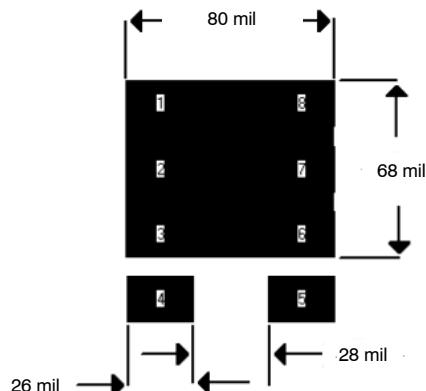

FIGURE 2. Footprint With Copper Spreading
The pad pattern with copper spreading shown in Figure 2 improves the thermal area of the drain connections (pins 1,2,3,6,7,8) while remaining within the confines of the basic footprint. The drain copper area is 0.0054 sq. in. or 3.51 sq. mm). This will assist the power dissipation path away from the device (through the copper leadframe) and into the board and exterior chassis (if applicable) for the single device. The addition of a further copper area and/or the addition of vias to other board layers will enhance the performance still further. An example of this method is implemented on the Vishay Siliconix Evaluation Board described in the next section (Figure 3).
1) Minimum recommended pad pattern (see Figure 2) on the evaluation board size of 0.5 in x 0.6 in.	156°C/W